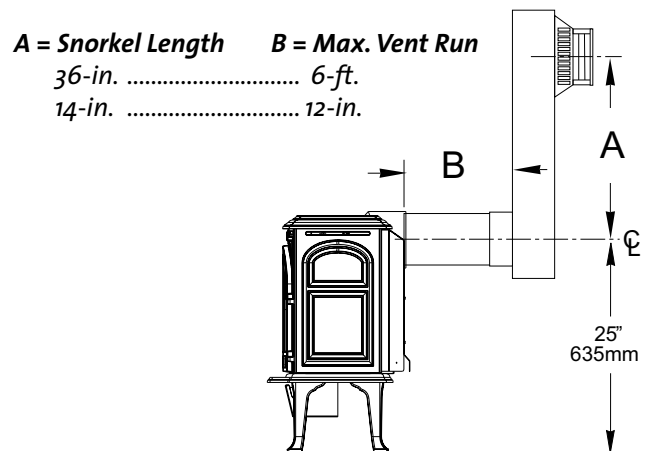

Figure 19.
- **14" Snorkel:** **ONLY** approved for maximum 12" horizontal termination with no elbow. See fig. 19.